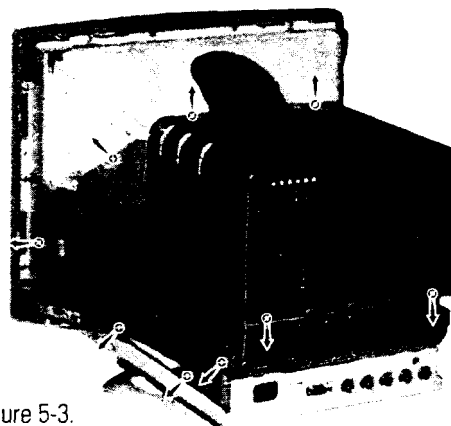

Figure 5-3.
1. Position the metal shielding around the CRT. If so equipped, make sure the tabs are snapped in place. Replace the 14 screws. See figure 5-3.